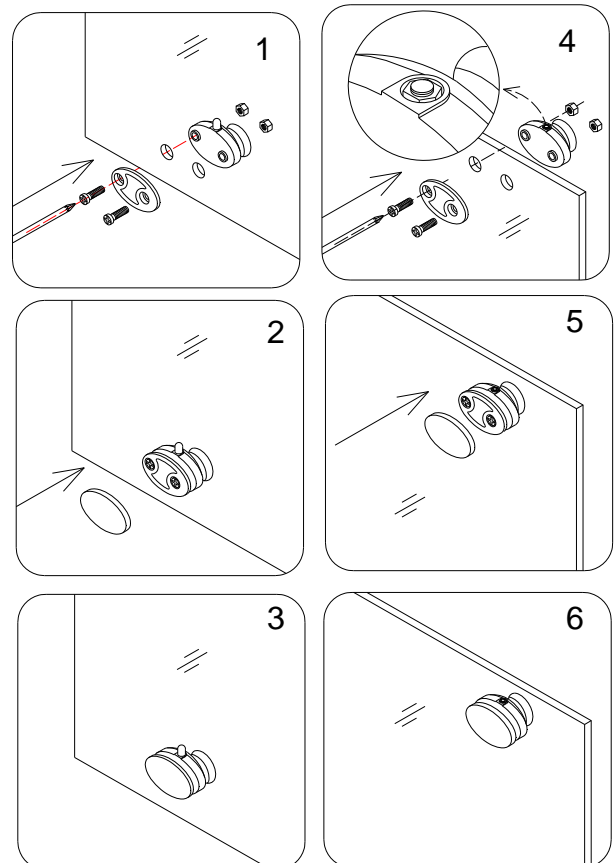

Fig. 12
NOTE: Glass Door (04) may come with the Wheel assemblies (17) preinstalled. If not, please refer to (Fig. 12) for detailed installation.
12. Fasten the top and the bottom **Wheel assemblies (17)** to the **Glass door (04)**. The top wheels can adjust the door level with the adjustable bolt and lock nut. The bottom wheel has a press button to fix the wheel on to the bottom **Guide rail (03)**.
See Fig. 12 for details.